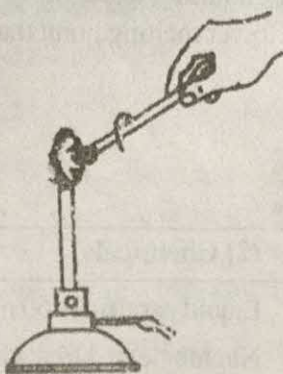

Fig. 5.1: Sealing of Capillary tube
- (1) Take a glass capillary tube of about 5-6 cm in length and seal one end of it. This is done by heating the tip of tube with the side of the flame of the Bunsen burner. The end of the capillary tube melts and seals itself. It is indicated by the formation of a small glass bead at the tip. Fig 5.1.
- (2) Take a small quantity of a solid (about 50 mg) in watch glass, powder it by crushing it with the help of a spatula.
- (3) Fill the powdered substance in the capillary tube upto about 1 cm height. This is done by pushing the open-end of the capillary tube into the heap of powdered substance kept in a watch glass. Now drop the capillary tube with the sealed end down through a glass-tube (25-30 cm length) kept vertically on a plane surface so that the powder reaches the closed end of the capillary.
- (4) Take a beaker of 100mL capacity. Fill it nearly half with paraffin oil. Place this beaker (paraffin bath) over a wire gauze kept on a tripod stand.